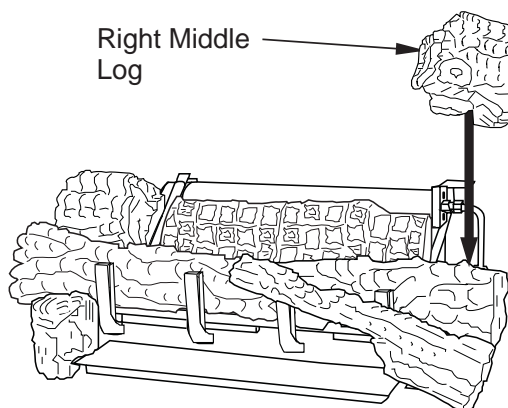

Figure 29 - Installing Right Middle Log
7. The right middle log (18" D-067, 24" & 30" D-041) has a groove on the bottom to sit on the chassis and has to sit on the tab on the back of the right front. The right middle log should have a recess area that fits around the ramp log as shown in **Figure 29**.